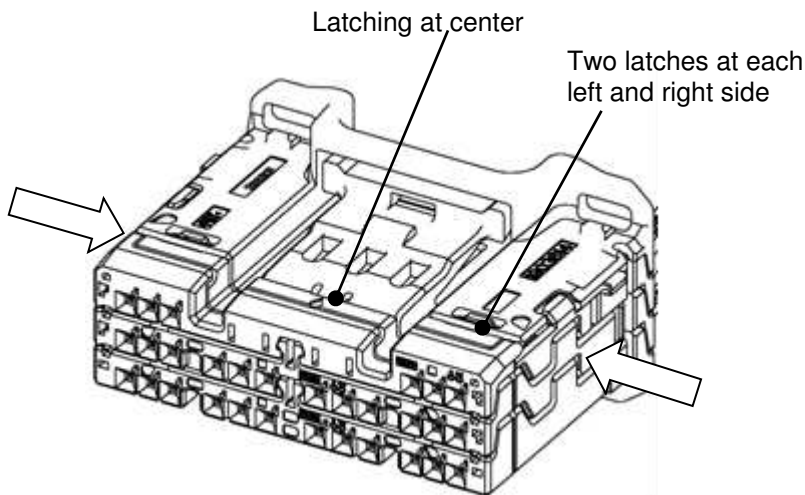

Fig.23
- ① Insert the driver straightly into either left or right side as shown by arrow in Fig.23 and lift up the tool keeping the condition.